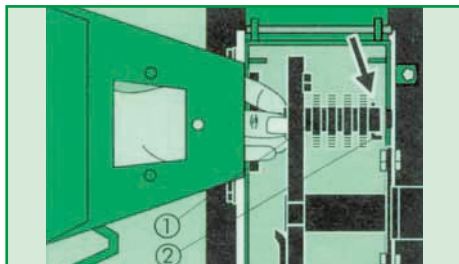

Fig. 6
To change position of hammers or to substitute them, remove the axle (1) counterpins and the lock (2) (figure 6). Remove them through the opening in the green crop feeder. When removing them, to avoid unbalance and vibration of the shredder, always observe the position of the separating rings. Be careful not to mix the hammer sets (sides).